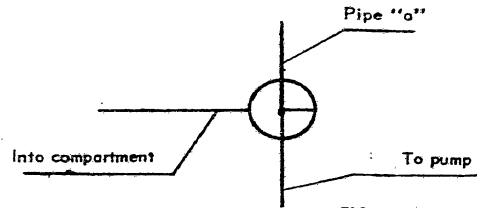

FIG. 4
2. Set cock 32 to position indicated in Fig.4.
8. Set cock 32 to position shown in Fig.4.
17. Set cock 32 to position indicated in Fig.4.